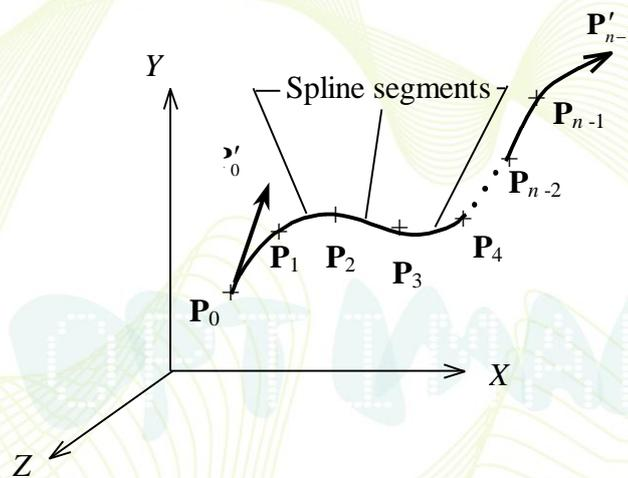

Figure 4. Hermite cubic spline curve
Equation (19) is for one cubic spline segment. It can be generalized for any two adjacent spline segments of a spline curve that are to fit a given number of data points. This introduces the problem of blending or joining cubic spline segments which can be stated as follows: given a set of n points $\mathbf{P}_0, \mathbf{P}_1, \dots, \mathbf{P}_{n-1}$ and the two end tangent vectors \mathbf{P}'_0 and \mathbf{P}'_{n-1} (as shown in Figure 4), connect the points with a cubic spline curve.